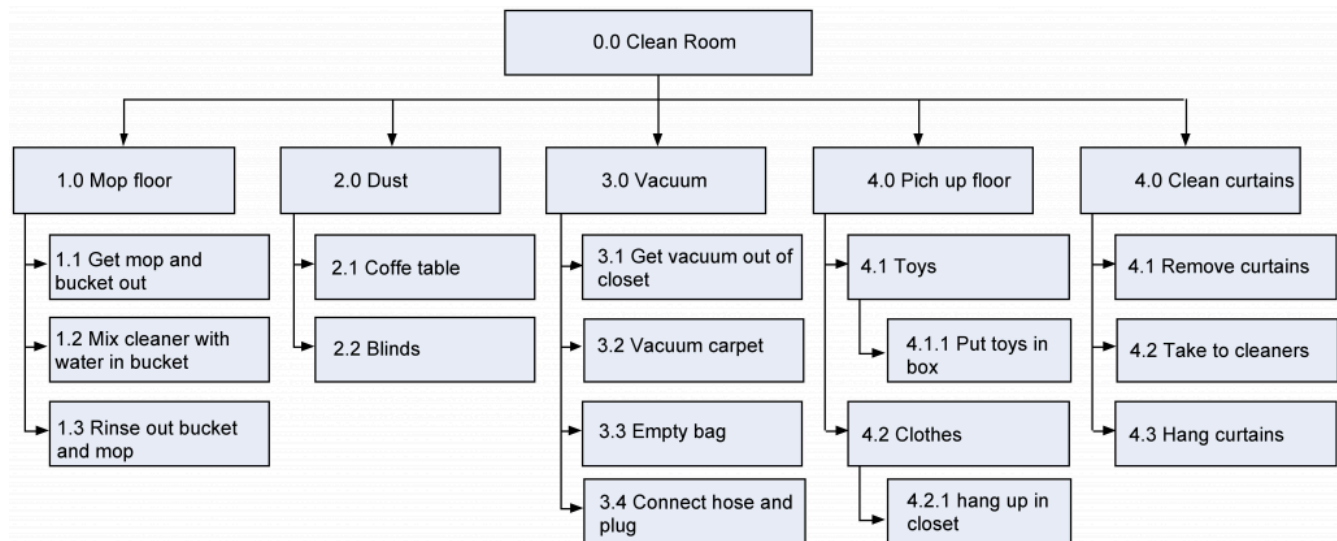

Figure 9.3: A WBS for cleaning a room. [\[Image description\]](#)
If I want to clean a room, I might begin by picking up clothes, toys, and other things that have been dropped on the floor. I could use a vacuum cleaner to get dirt out of the carpet. I might take down the curtains and take them to the cleaners, and then dust the furniture. All of these tasks are subtasks performed to clean the room. As for vacuuming the room, I might have to get the vacuum cleaner out of the closet, connect the hose, empty the bag, and put the machine back in the closet. These are smaller tasks to be performed in accomplishing the subtask called vacuuming. Figure 9.3 shows how this might be portrayed in WBS format.
**Figure 9.3 image description:**
[\[Return to Figure 9.3\]](#)